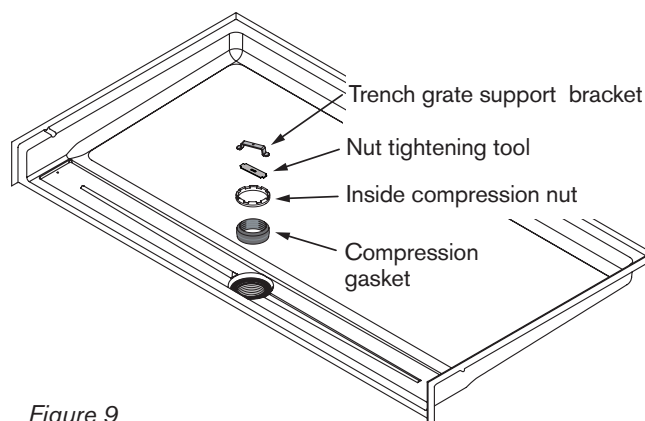

Figure 9
- 15 **FINISH DRAIN INSTALLATION:** Slide inside compression gasket into drain body and slip over pipe. **Make sure beveled end of inside compression gasket is facing up and flush with pipe surface.** (Figure 9)